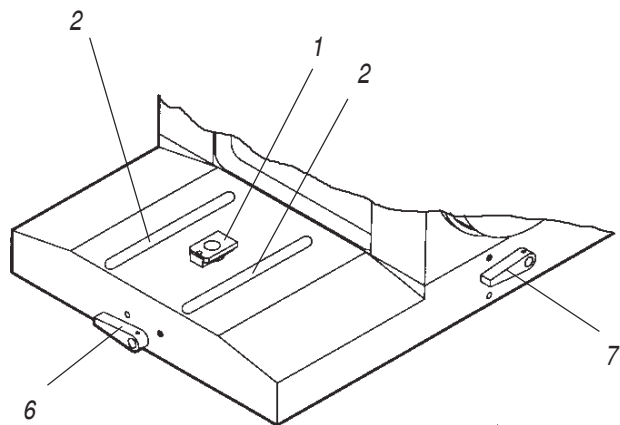
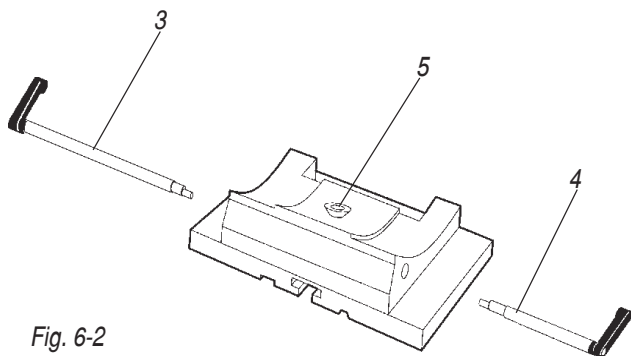

Fig. 6-1
Fig. 6-2
The base assembly should be carefully guided onto the guide rails (Fig. 6-1, item 2) and secured by moving the clamping lever (6) to the right. Verify that the blade holder base is positioned so that the thick edge is facing away from the instrument as shown in Fig. 6-2.
When reassembling the blade holder base assembly (Fig. 6-2), be certain that the long clamping lever (3) is inserted into the opening on the left side of the base assembly and secured. The shorter clamping lever (4) should be inserted on the right side and secured.